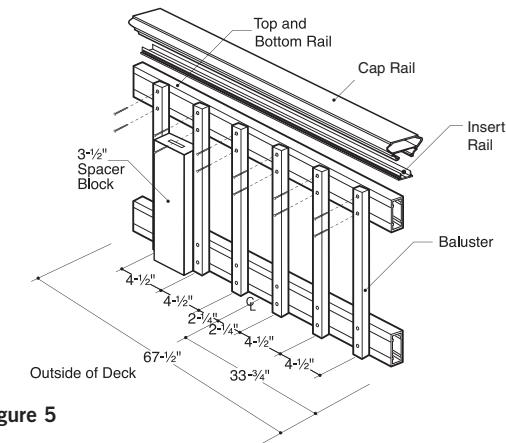

Figure 5
**Traditional, Baroque and Arc balusters:** Both top and bottom rails will be installed with the pre-drilled holes facing down to prevent water from collecting in the rail. Maximum 4-1/2" on-center and equal spacing for the end spacing. Start by finding the center of the rail. Rail length  $\div 2$  = center of rail. Start the first aluminum balusters 2-1/4" on-center each side of the center line. Mark every 4-1/2" from these lines to each end. This will leave the end spacing 4" or less on both ends and require 14 aluminum balusters (**Figure 5**). Tip: Use a piece of 2x4 (3-1/2" actual) as a spacer block for the spacing between balusters.
**Glass balusters:** 7-1/2" on-center and equal spacing for the end spacing. Start by finding the center of the rail. Rail length  $\div 2$  = center of rail. Start the first glass baluster on-center of the center line. Mark every 7-1/2" from the center line to each end. This will leave the end spacing 4" or less on both ends and require nine glass balusters. Tip: Use a piece of 2x4 (3-1/2" actual) as a spacer block for the spacing between balusters (**Figure 5**).
**Step 12 Traditional, Baroque, Arc and Glass balusters:** Start the first two balusters 2-1/4" on-center each side of the center of the rail and work out to each end (on-center of the center line if using glass). Using the baluster as a guide, drill 9/64" holes in the rails at each baluster location. Use a 2x4 as a spacer block to space the next baluster. Working toward the ends, drill and attach each baluster with the screws provided (**Figure 5**).